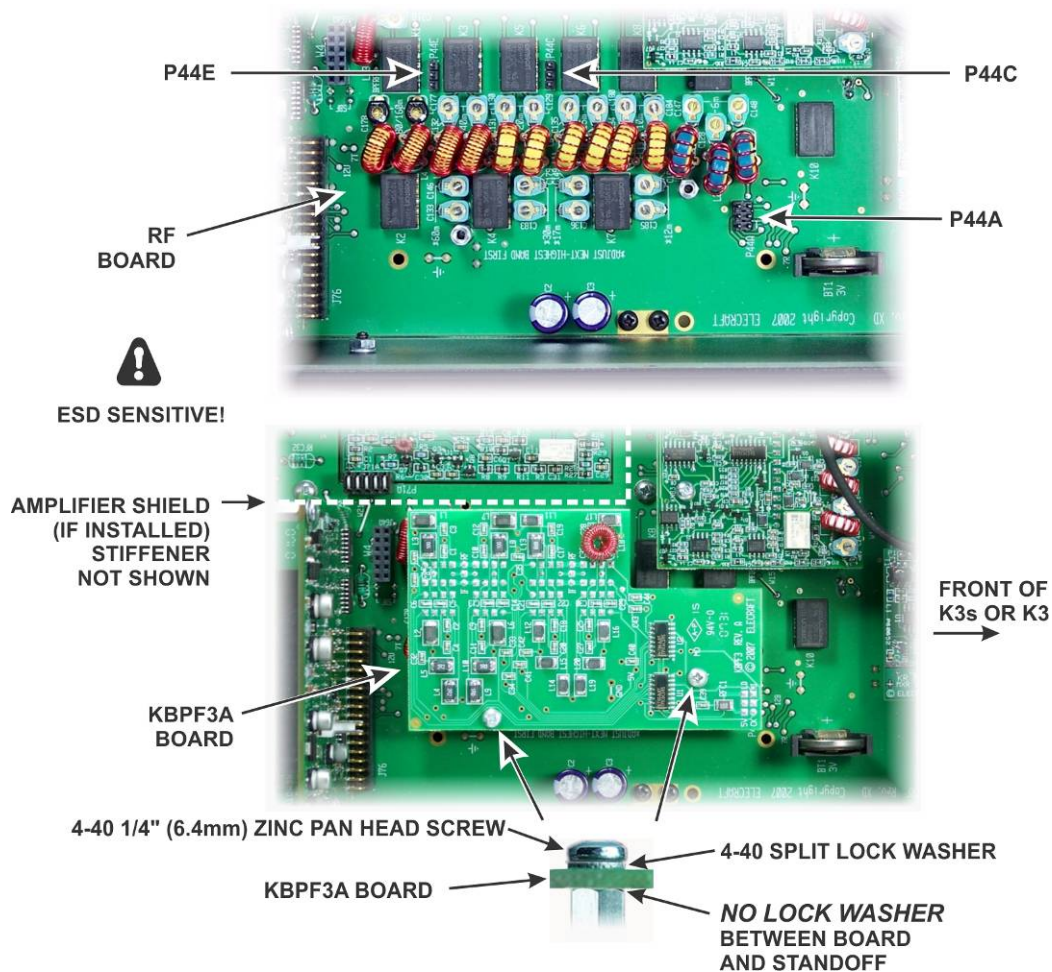

Figure 13. Mounting the KBPF3 Board.
There are three connectors on the bottom of the KBPF3A board that must be properly mated to P44A, P44C and P44E on the RF board (see Figure 13). Even though the connectors may be hard to see as they are mated, especially if the amplifier shield is installed, they can be aligned as follows:
- ☐ Attach the board with a 4-40 1/4" (6.4 mm) zinc pan head screw and lock washer at each standoff as shown in Figure 13.